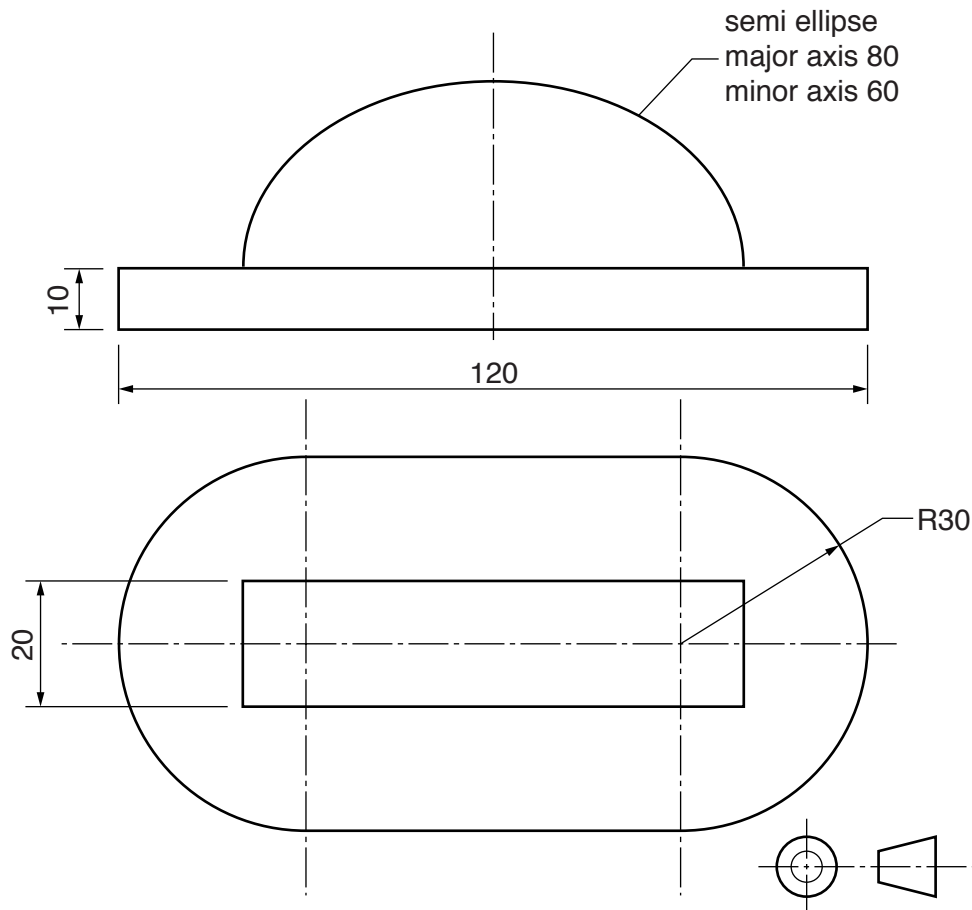

Fig. 4
- 8 Fig. 4 shows a child's toy.